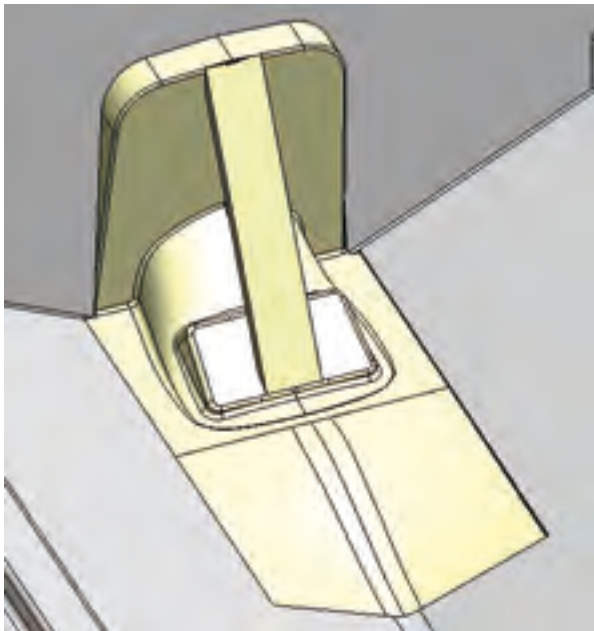

Figure 10. Strut
8. Remove the strut at this point, if there is one in place (figure 10).